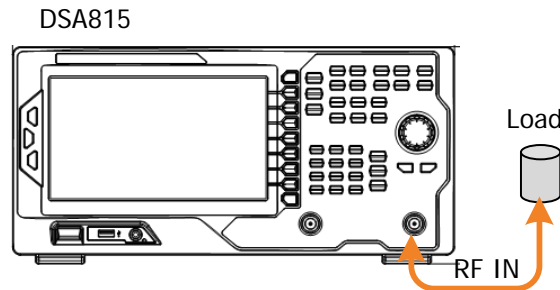

Figure 2-1 DANL Test Connection Diagram
1. Connect the 50 Ω matched load to the RF input terminal of DSA800, as shown in Figure 2-1.